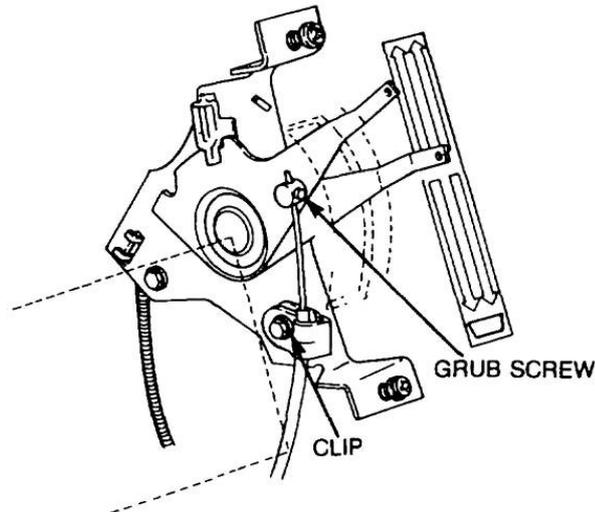

Figure 163 Removal of the Heater Assembly
- c. Disconnect the securing clip and cable from the air directional control lever (Figure 163).